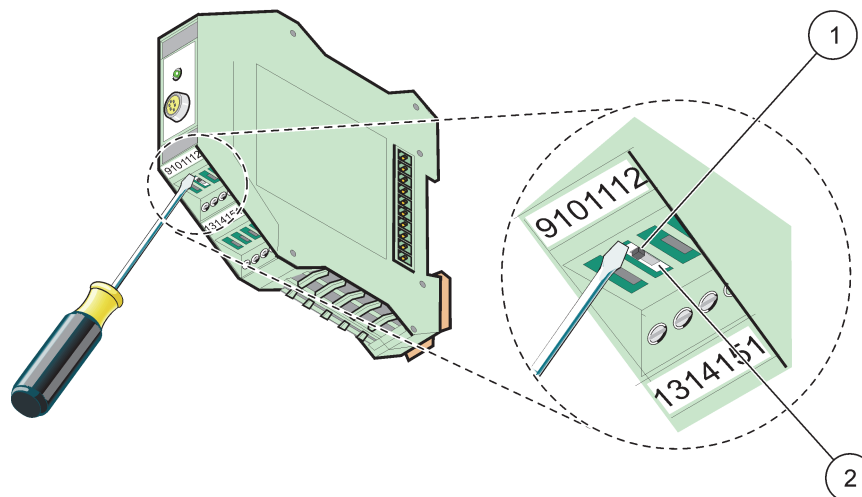

Figure 75 Switching the network termination
1. Deactivate the switch (network termination) on the module (Figure 75).